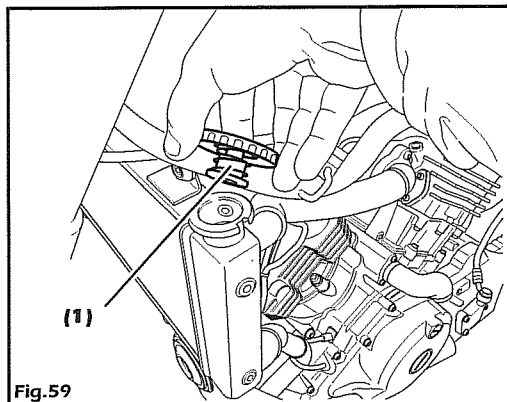

Fig.59
1. Remove the radiator cap **(1)** (see fig. 59).
4. Refit the radiator cap **(1)** (see fig. 59).